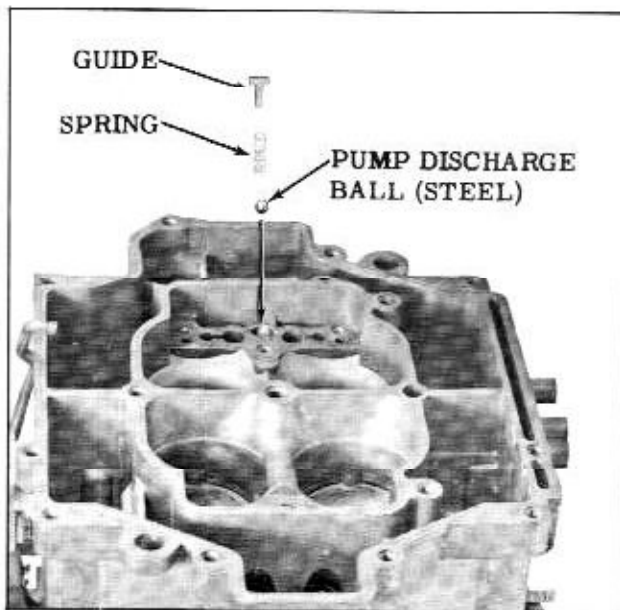

Fig. 8-102 Pump Discharge Spring Guide
5. Install the pump outlet steel ball, spring, and "T" shaped guide in the center hole of primary venturi cluster mounting surface in float bowl. (Fig. 8-102)